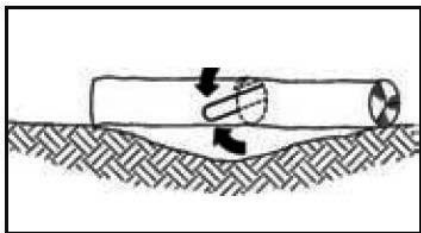

Fig. 4C
- **Log supported on both ends:** first, over buck 1/3 diameter of log to avoid splintering. Second, underbuck to meet first cut and avoid pinching (Fig. 4C).